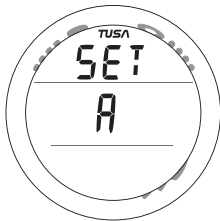

Fig. 39 - SET A (ALARMS)
- > A and S (simultaneously for 4 sec) while NORM (or GAUG) Surface Main is displayed will access Set A (Fig. 39).